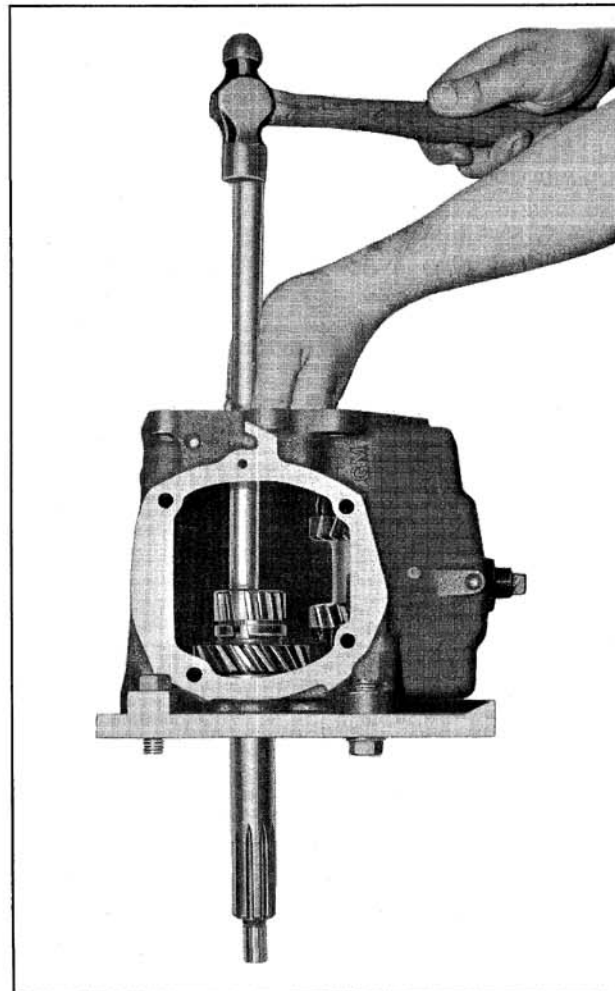

Fig. 7-20 Installing Clutch Gear and Bearing
6. Insert clutch gear in case from inside case and using a brass drift, tap the outer race of the clutch gear bearing until the bearing locating ring groove is outside the front of the case, being careful to drive the assembly straight to prevent damage. (Fig. 7-20)